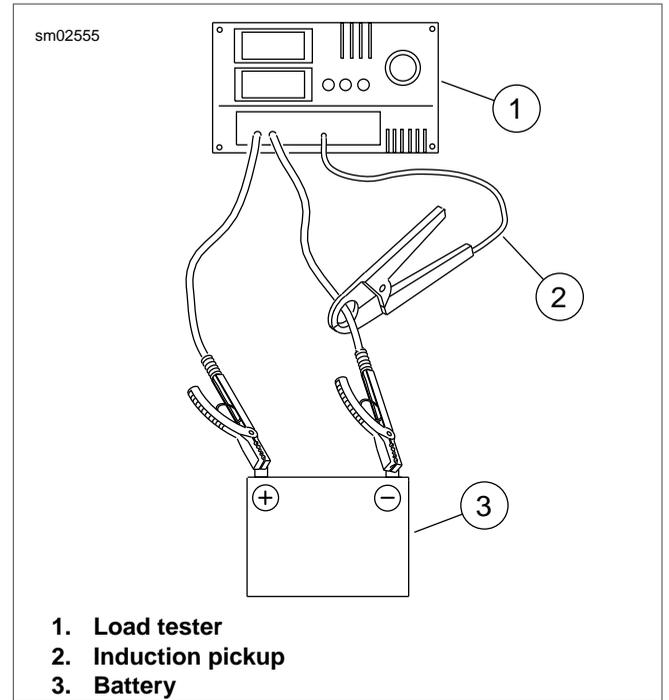

Figure 8-17. Load Test Battery
4. See Figure 8-17. Connect tester leads to battery posts and place induction pickup over negative (black) cable.